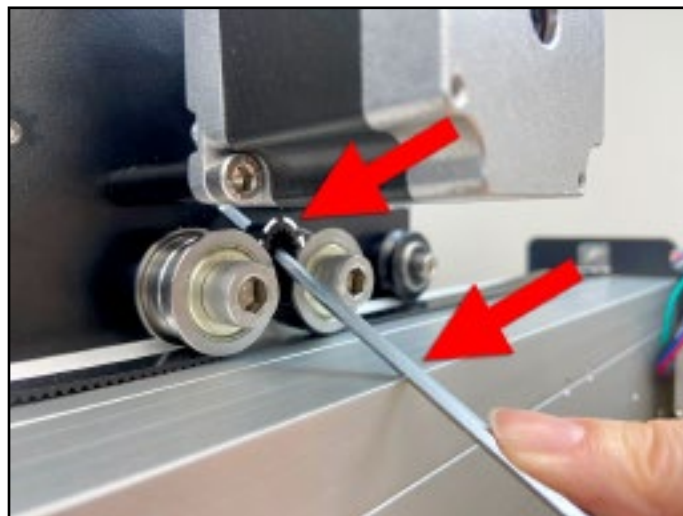

Figure 5-7
5. Slide the 3mm hex key under the belt, between the two idlers. Use the hex key as a lever against the X-rail to push a loop of belt up between the two idlers as shown in **Figure 5-7**.